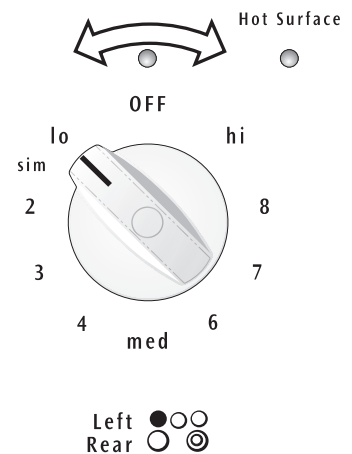

Fig. 3
2. Push in and turn the surface control knob in either direction to the desired setting (Refer to the **Suggested Radiant Surface Element Settings Table**, Figs. 3 & 4). Start most cooking operations on a higher setting and then turn to a lower setting to finish cooking. The surface control knobs do not have to be set exactly on a particular mark. Use the marks as a guide and adjust the control knob as needed. Each surface element provides a constant amount of heat at each setting. A glowing red surface heating area extending beyond the bottom edge of the cookware indicates the cookware is **too small** for the surface heating area.